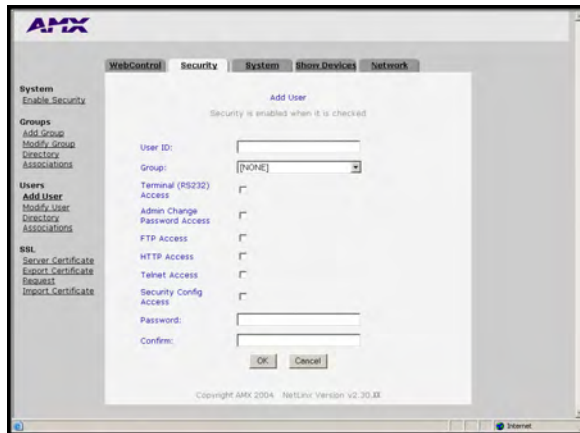

FIG. 52 Security tab - showing the Add User fields
2. Click the **Add User** link (on the left of the browser window) to populate the Security tab with the fields necessary for configuring a new user and assigning its associated access rights (FIG. 52).